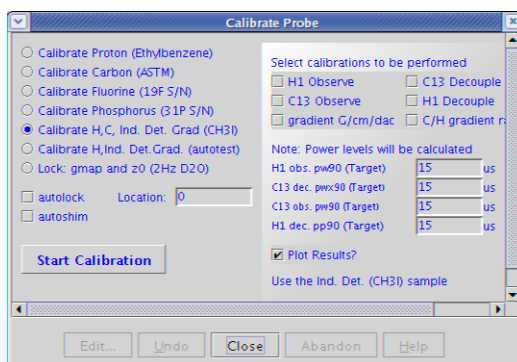

Figure 17. Prompts for Calibrate H, C, Ind. Det. Grad (CH3I)
- Follow the prompts, enter any required values, select options, and proceed according to the instructions presented in the Calibrate probe window; see Figure 17 for an example of the prompts presented: